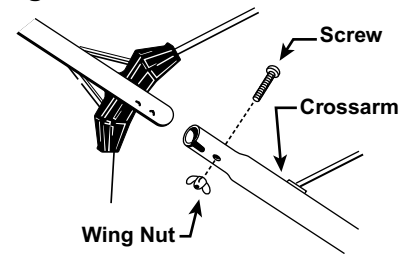

Fig. 2
2. Open all elements on the antenna. NOTE: The elements on this antenna are tightly riveted. To avoid bending the elements while opening, grip the elements near the rivets. (See Figs. 2 & 3).